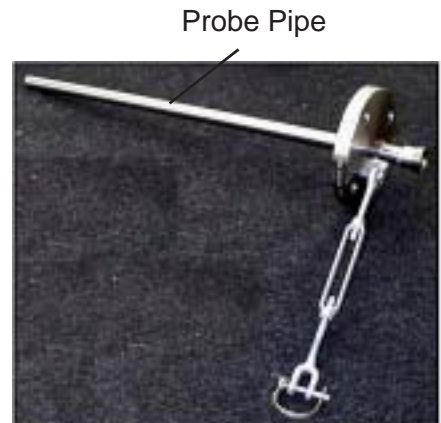

Figure 15
3. Install sampling probe pipe into pipe flange by inserting non-threaded end of probe pipe through flange (see Figure 15). Probe should extend into the center of the stack and pointing slightly downward to allow any entrained liquid to drain back into the stack.